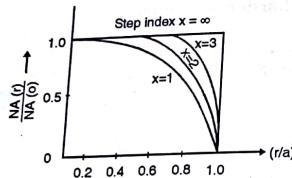

Fig. 5.7.1 : Comparison of the NA for fibres having various  $(r/a)$  profile
- From Equation (5.7.1) it is evident that for a graded index fibre NA decreases from axial numerical aperture NA(0) to zero as r increases from zero to core radius a. Fig. 5.7.1 represents NA for graded index fibre for various  $(r/a)$  profile.